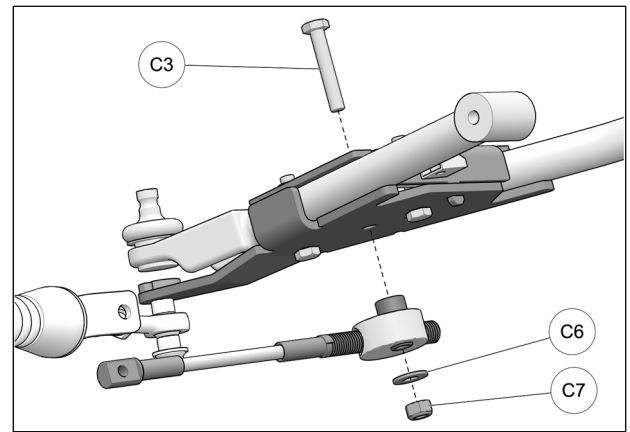

Fig. 18
11. Pass bolt (**C3**) down through opening in bracket cover and insert it in the anchor bracket's central hole. Slip steering limiter cable assembly over bolt (**C3**) and use washer (**C6**) and nut (**C7**) to secure assembly to anchor bracket. Tighten nut to 50 N•m [37 lb•ft]. Refer to Fig. 18